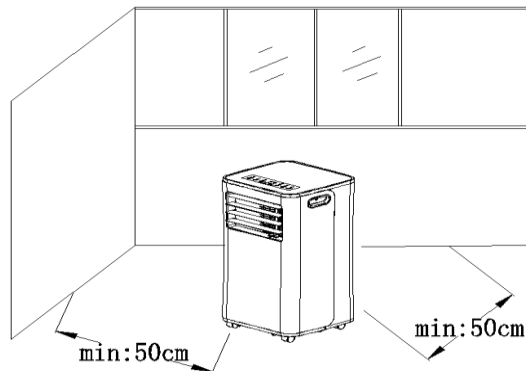

Figure4
1. Move the machine with installed heat pipe and fittings before the window, and the distance between the body and walls or other objects shall be least 50 cm (as shown in Fig.4).